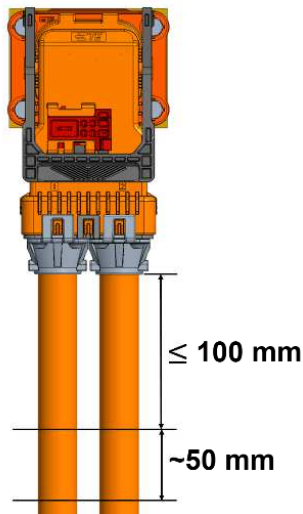
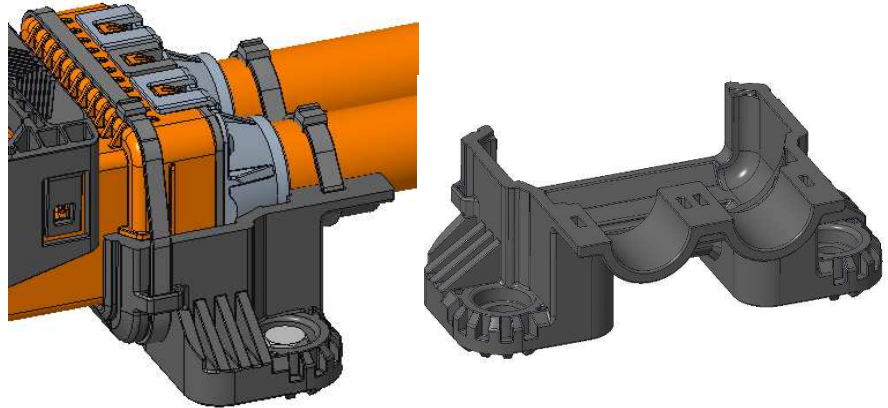

Figure 21a: Cable Fixation Points per USCAR-2, V1
Figure 21b: Example of a stabilization component for applications requiring vibration harsher than USCAR-2 Vibration Class V1.
5. Ensure that the cables are rigidly secured at harness tie-down points, and that each tie-down point is static relative to the header mounting surface. A single tie-down point is required within 100mm or less from the cable exit of the connector, per USCAR-2 5.4.6.3, and at least one additional tie-down point is recommended within the 50mm range shown below in Figure 21a. Having strain relief, which is static to the header mounting surface and placed near the cable exit of the connector, will improve the vibration performance of the system. Applications requiring vibration performance exceeding USCAR-2 Vibration Class V1 will require validation with a stabilization component like what is shown in Figure 21b. See C-2843110 reference drawing for details.